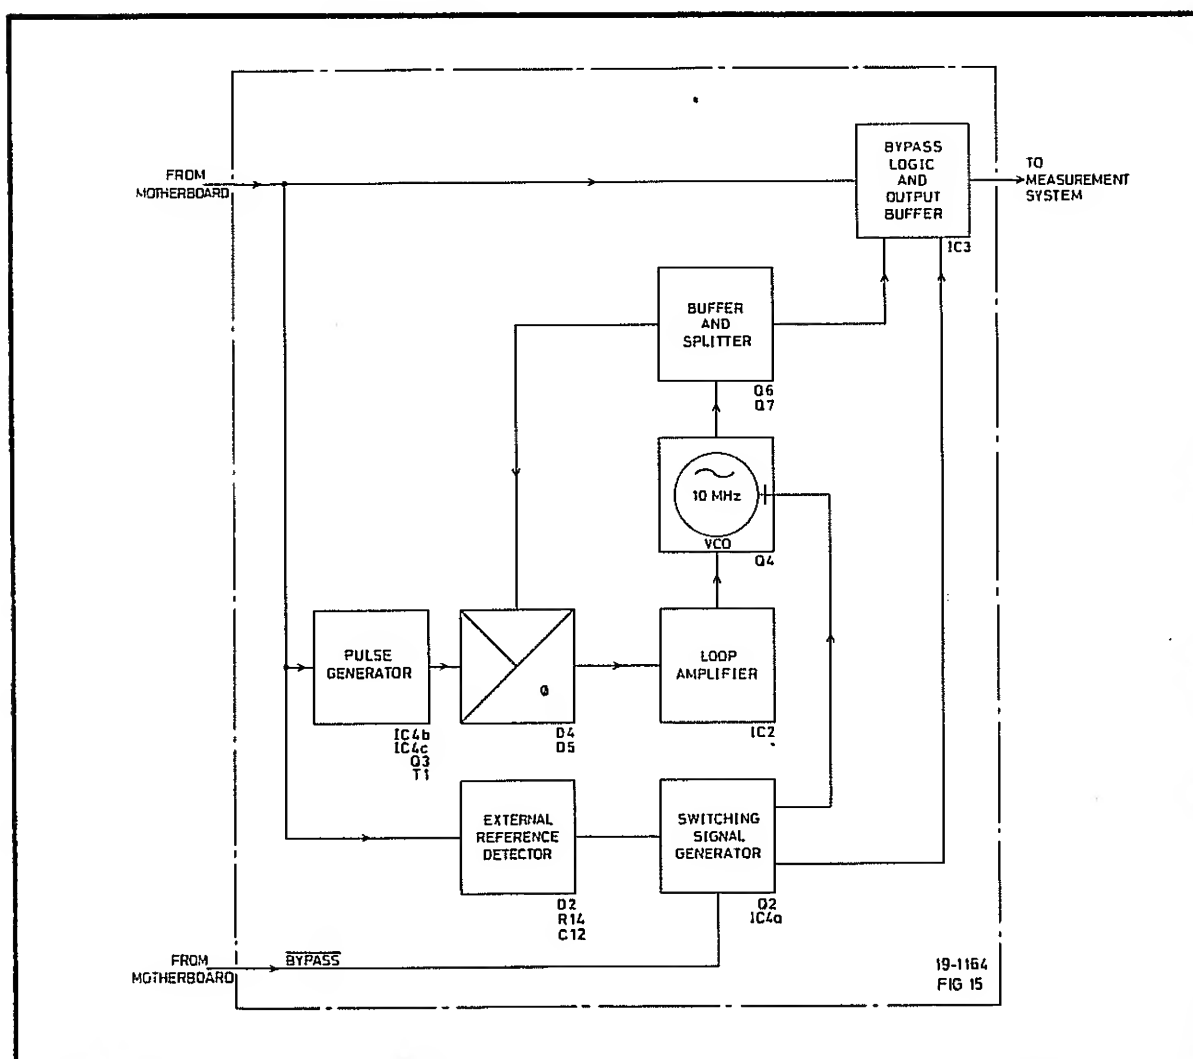

Fig. 6.12 The Reference Frequency Multiplier
- 116 The block diagram of the multiplier is given in Fig. 6.12. The input to the circuit is taken from the EXT STD INPUT socket on the rear panel, via a signal conditioning circuit on the motherboard. The output of the circuit is passed to the measurement system. The BYPASS control line is held at logic '1' by the +5 V STANDBY supply.